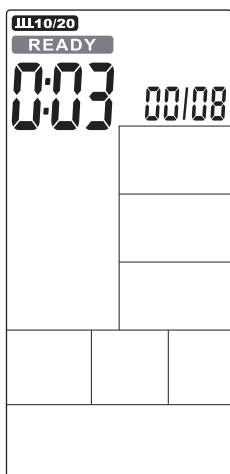

FIGURE 28
- The time counts down from 3 to 0, then the console will start, while an audible alert will sound once per second and the word READY flashes once per second, displaying the count '00 / 08' (Figure 28).